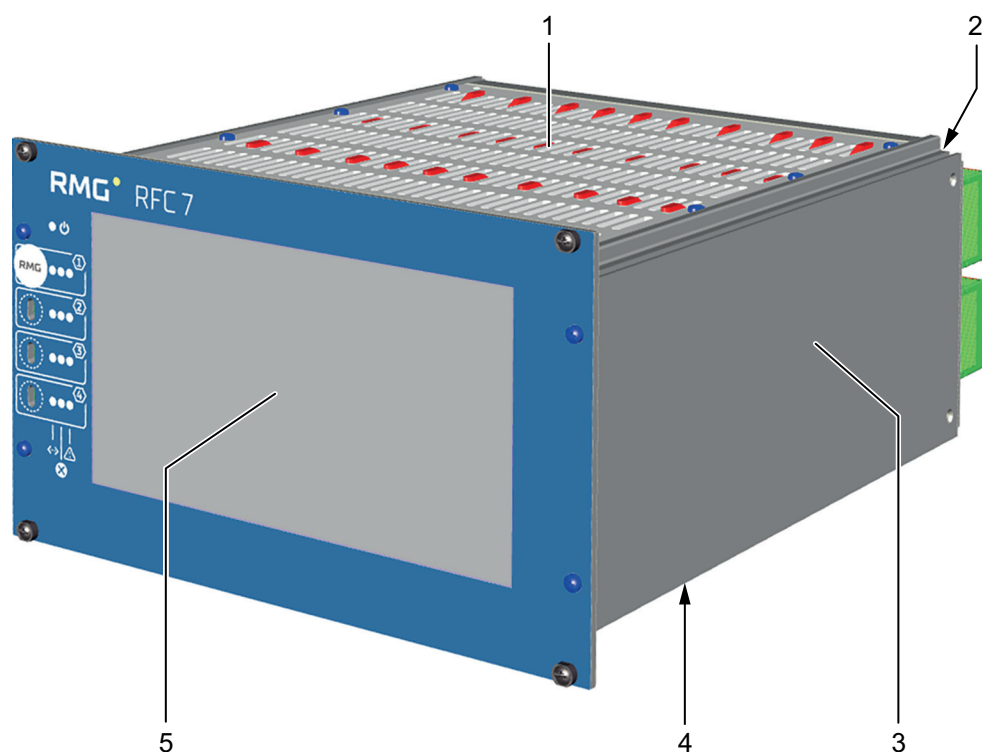

Fig. 7: RFC 7 – 19" housing for 1 to 2 streams
- 19" housing for 1–2 streams, cf. fig. 7